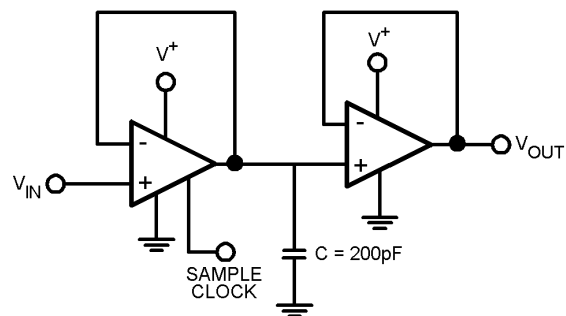

FIGURE 2. Sample and Hold Circuit
*Figure 2* shows the schematic of a simple sample and hold circuit. When the sample clock is high the first amplifier is in normal operation mode and the second amplifier acts as a buffer. The capacitor, which appears as a load on the first amplifier, will be charging at this time. The voltage across the capacitor is that of the non-inverting input of the first amplifier since it is connected as a voltage-follower. When the sample clock is low the first amplifier is shut off, bringing the output impedance to a high value. The high impedance of this output, along with the very high impedance on the input of the second amplifier, prevents the capacitor from discharging. There is very little voltage droop while the first amplifier is in shutdown mode. The second amplifier, which is still in normal operation mode and is connected as a voltage follower, also provides the voltage sampled on the capacitor at its output.